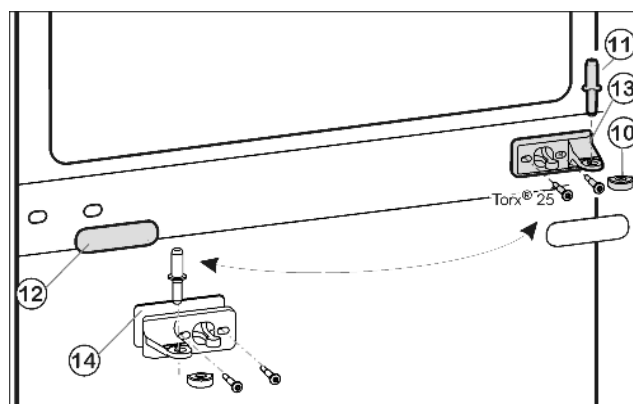
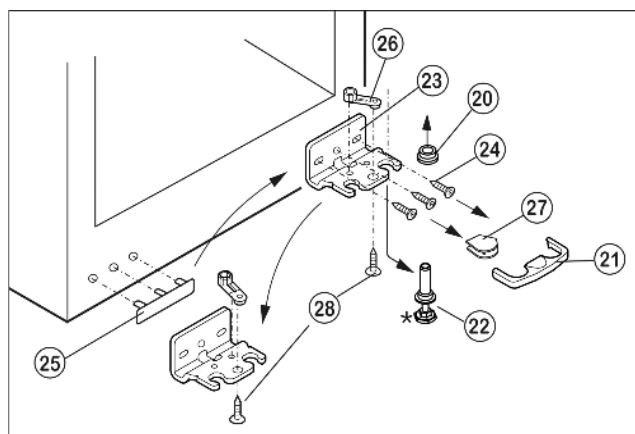

Fig. 5
Fig. 6
- ▶ Draw the middle bearing pin Fig. 5 (11) out of the turn hinge and lower door.
- ▶ Remove the plastic cap Fig. 5 (10).
- ▶ Detach the middle turn hinge Fig. 5 (13).
- ▶ Carefully detach the cover panel Fig. 5 (12).
- ▶ Turn the middle turn hinge Fig. 5 (13) through 180° and screw it firmly into place on the new hinge side (with 4 Nm).
- ▶ Turn the cover panel Fig. 5 (12) through 180° and snap it into place again on the new handle side.
- ▶ Draw the safety lock Fig. 6 (21).
- ▶ Remove the cover Fig. 6 (27).*
- ▶ Fully retract the adjustable-height foot Fig. 6 (22).
- ▶ Pull out the bearing pin Fig. 6 (22) downwards and forwards. In so doing, pay attention to the hinge bush Fig. 6 (20).
- ▶ Unscrew the turn hinge Fig. 6 (23) (3 Torx 25) Fig. 6 (24).
- ▶ Unscrew the bearing part Fig. 6 (26) (1 Torx 25), Fig. 6 (28).
- ▶ Carefully lift off and transfer the cover Fig. 6 (25) on the handle side.
- ▶ Screw the turn hinge Fig. 6 (23) firmly into place on the new hinge side, possibly using a cordless screwdriver (**with 4 Nm**).
- ▶ Place the cover Fig. 6 (27) on the opposite side.*
- ▶ The safety lock (21) has to engage with the turn hinge at the side so that the bearing pin and therefore the door are secured.
- ▶ Snap the safety lock (21) onto the turn hinge again.
- ▶ Put on the hinge bush Fig. 6 (20).
- ▶ Place the lower door from above onto the lower bearing pin Fig. 6 (22).
- ▶ Place the plastic cap Fig. 5 (10) back onto the middle turn hinge Fig. 5 (13).
- ▶ Place the middle bearing pin Fig. 5 (11) in the lower door, on the new hinge side, through the middle turn hinge Fig. 5 (13).
- ▶ Place the upper door on the middle bearing pin Fig. 5 (11).
- ▶ If necessary, align the doors to the appliance housing by way of the two oblong holes in the lower turn hinge Fig. 6 (23) and middle turn hinge Fig. 5 (13). To do so, unscrew the middle screw in the lower turn hinge Fig. 6 (23).